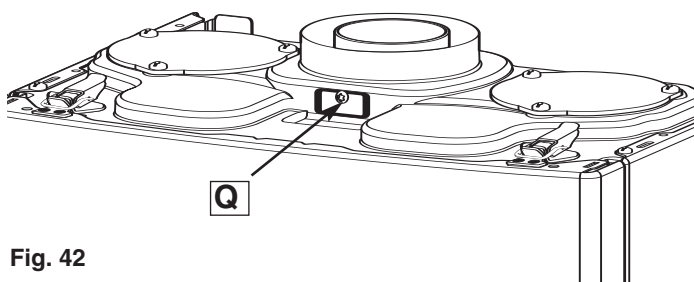

Fig. 42
3. Turn on the combustion analyser, remove the combustion test point plug **Q** (Fig. 42) and insert the analyser probe into the test point;